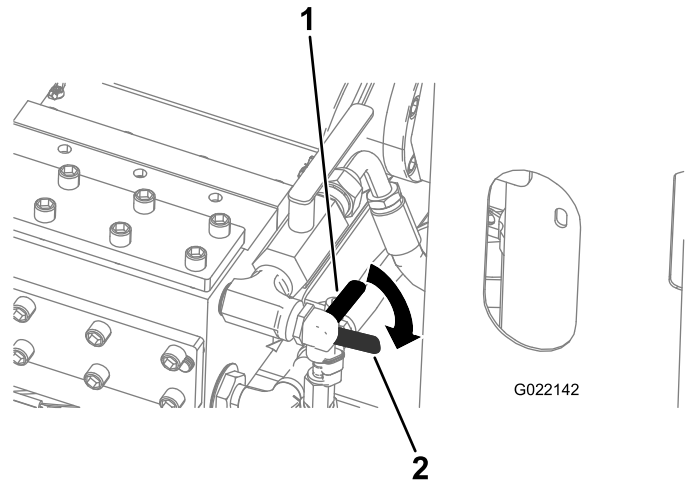

Figure 152
- A. Open the antifreeze valve on the front side of the drilling-fluid pump (the lower valve) as shown in Figure 152.
6. Close the antifreeze valve (Figure 152).